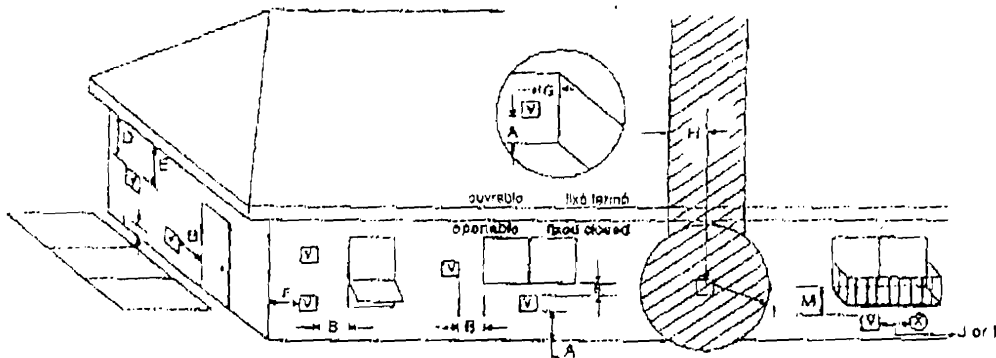

Fig. 16
3.5 PLACEMENT DU TERMINAL DE LA BUSE - Fig. 16